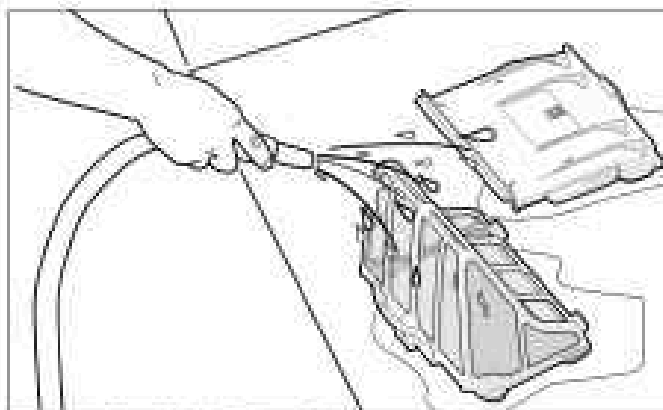

Figure 23. Wash Filter Canister
7. Empty all debris from the filter canister, then rinse the canister, the filter support and the cleaner using a hose, as shown in Figure 23.